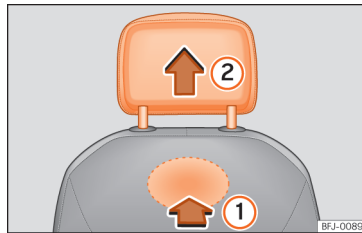

Fig. 68 Front head restraint: removal.
- To unlock it, look for the rabbet on the bottom of the backrest and press in the direction of the arrow >>> Fig. 68 ①.
- Remove the head restraint in the direction of the arrow ②.